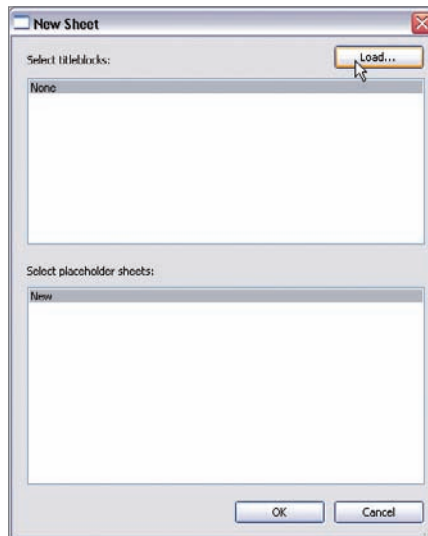

FIGURE 11.15 Finding a title block for your use
4. In the New Sheet dialog, click the Load button. This will allow you to go find a title block. Although we have not made a title block yet, Revit has a directory with some samples you can use to get started (see Figure 11.15).